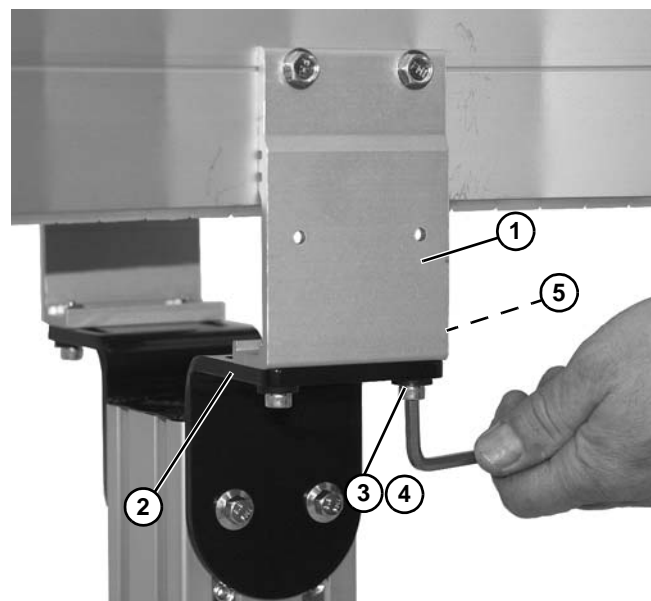

Figure 12
4. Fasten brackets (Figure 12, item 1) to support stand (Figure 12, item 2) with mounting screws (Figure 12, item 3), washers (Figure 12, item 4) and nuts (Figure 12, item 5).
5. Tighten screws (Figure 12, item 3) to 60 in-lb (7 Nm).